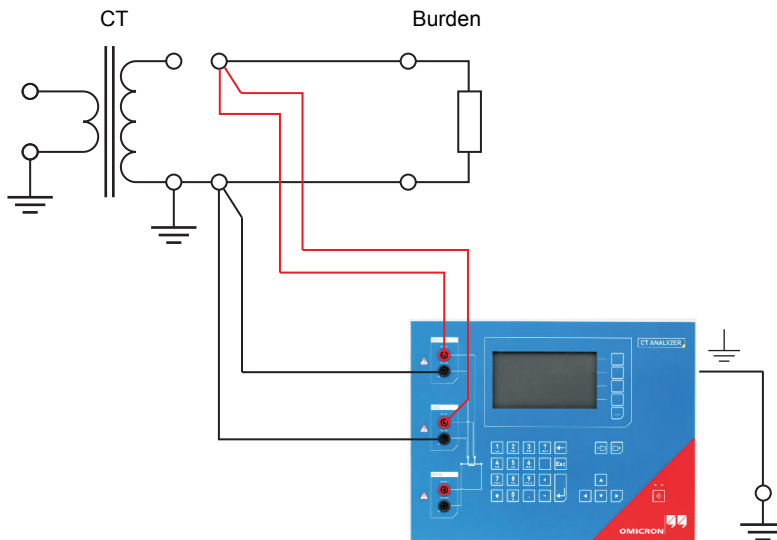

Figure 3-3: Basic wiring for a burden test
For a burden test, connect *CT Analyzer* as shown in Figure 3-3. Observe the general safety rules in section 3.1 on page 23 and the safety instructions given in chapter 1 "Safety instructions" on page 9.
1. Open the connection line to the ungrounded side of the CT (refer to Figure 3-3).